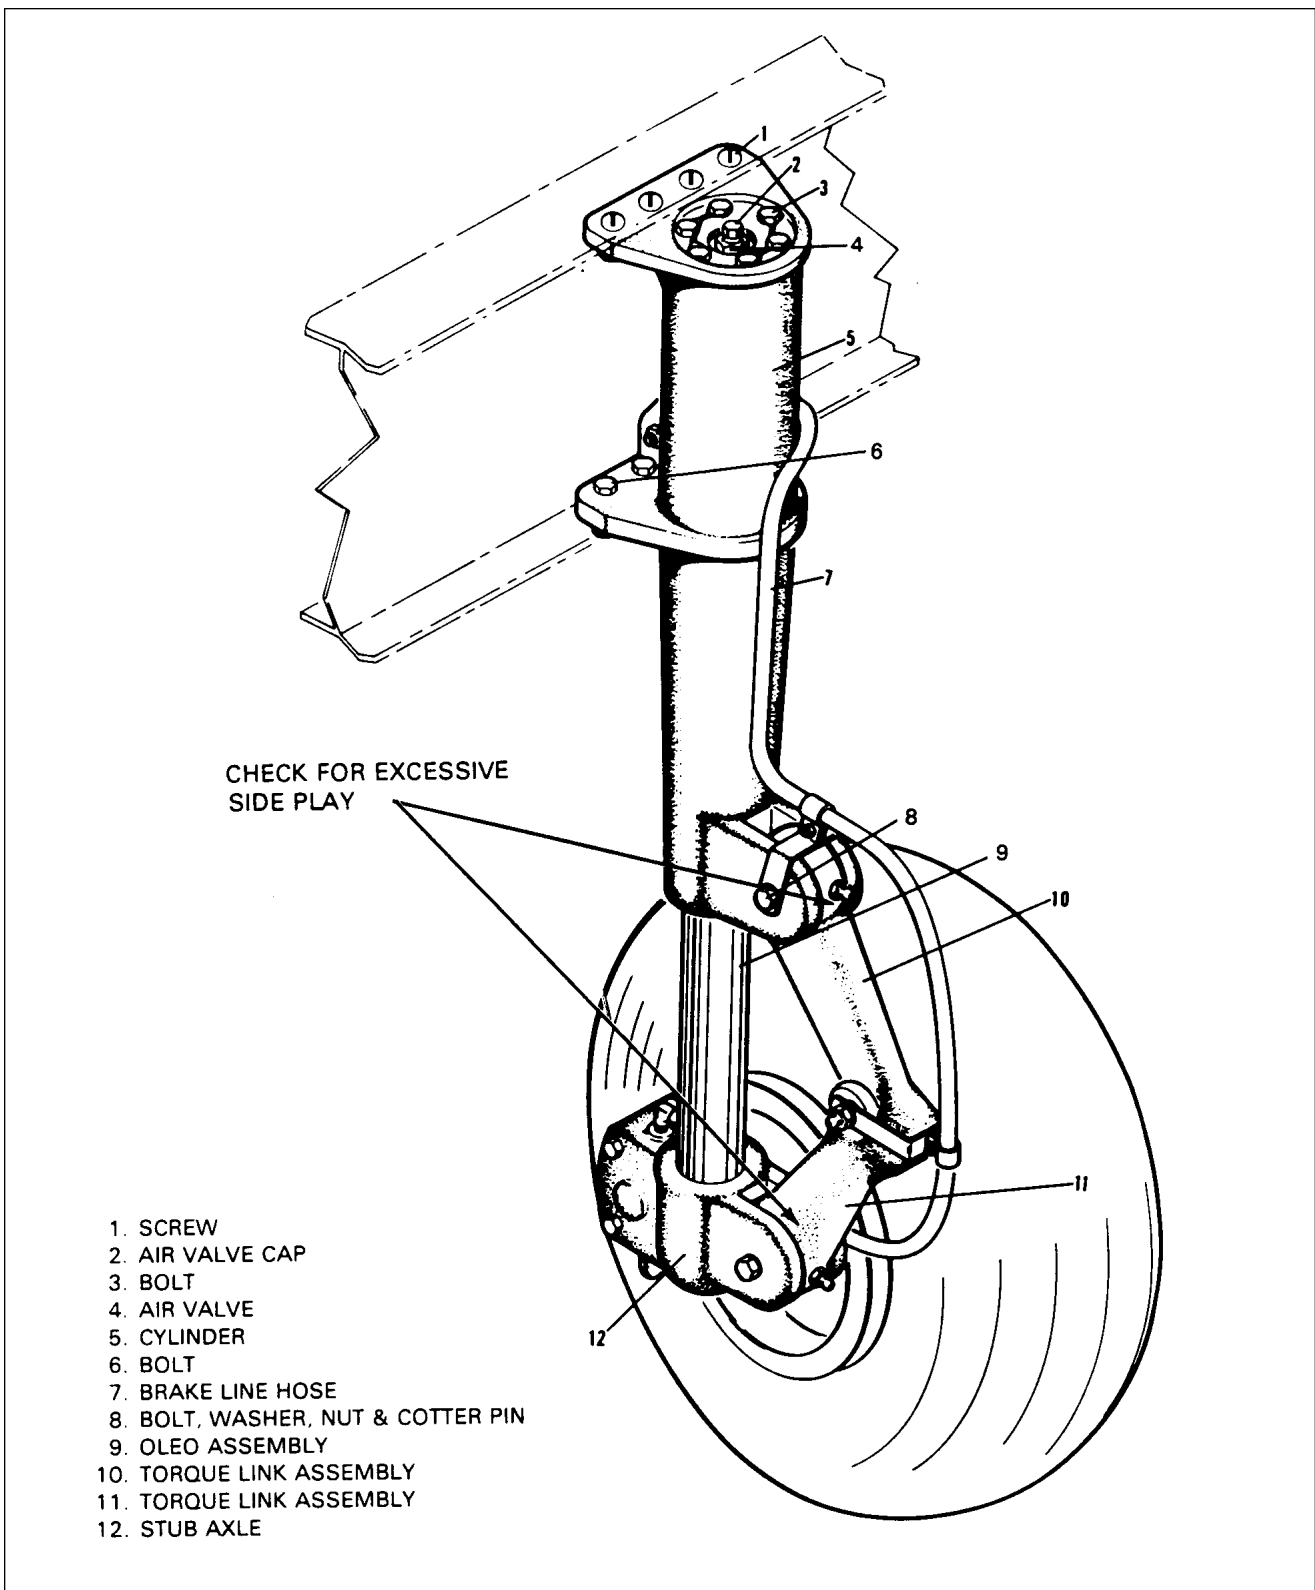

Figure 32-3. Main Gear Installation
D. REMOVAL OF MAIN LANDLNG GEAR. (Refer to Figure 32-3.)
F. INSTALLATION OF MAIN LANDING GEAR. (Refer to Figure 32-3.)